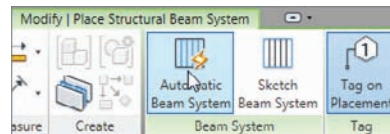

FIGURE 8.40 Selecting the Automatic Beam System button
- 2.** Make sure the Automatic Beam System button is picked, as shown in Figure 8.40.